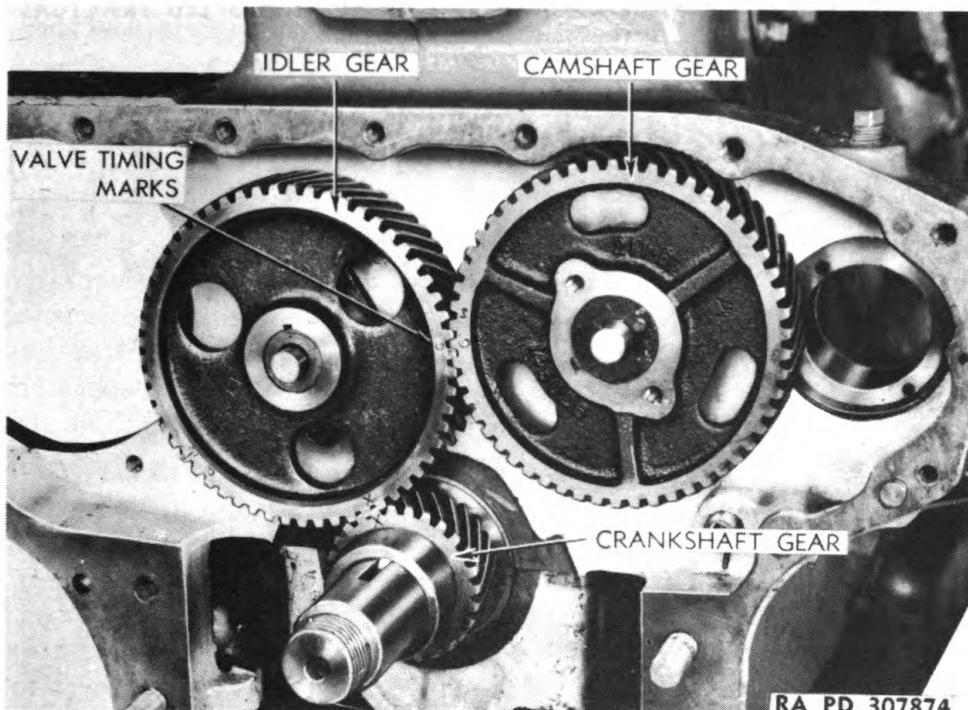

Figure 68 — Valve Timing
e. **Install Camshaft and Idler Gear Assemblies.** Install valve lifters in holes in crankcase. Install idler gear spindle bushing adapter assembly in end of cylinder block with two self-locking cap screws (fig. 29). *CAUTION: These cap screws will be damaged if too much force is used on wrench when tightening them.* Slip thrust washer on spindle and insert spindle into adapter, engaging idler gear with crankshaft gear so that the tooth marked "X" on idler gear registers with tooth marked "X" on crankshaft gear (fig. 68). Insert camshaft through camshaft bushings in cylinder block (fig. 28) and mesh camshaft gear with idler gear so that tooth marked "C" on camshaft gear registers with tooth marked "C" on idler gear (fig. 68). Install large expansion plug in end of cylinder block at end of camshaft (fig. 26).